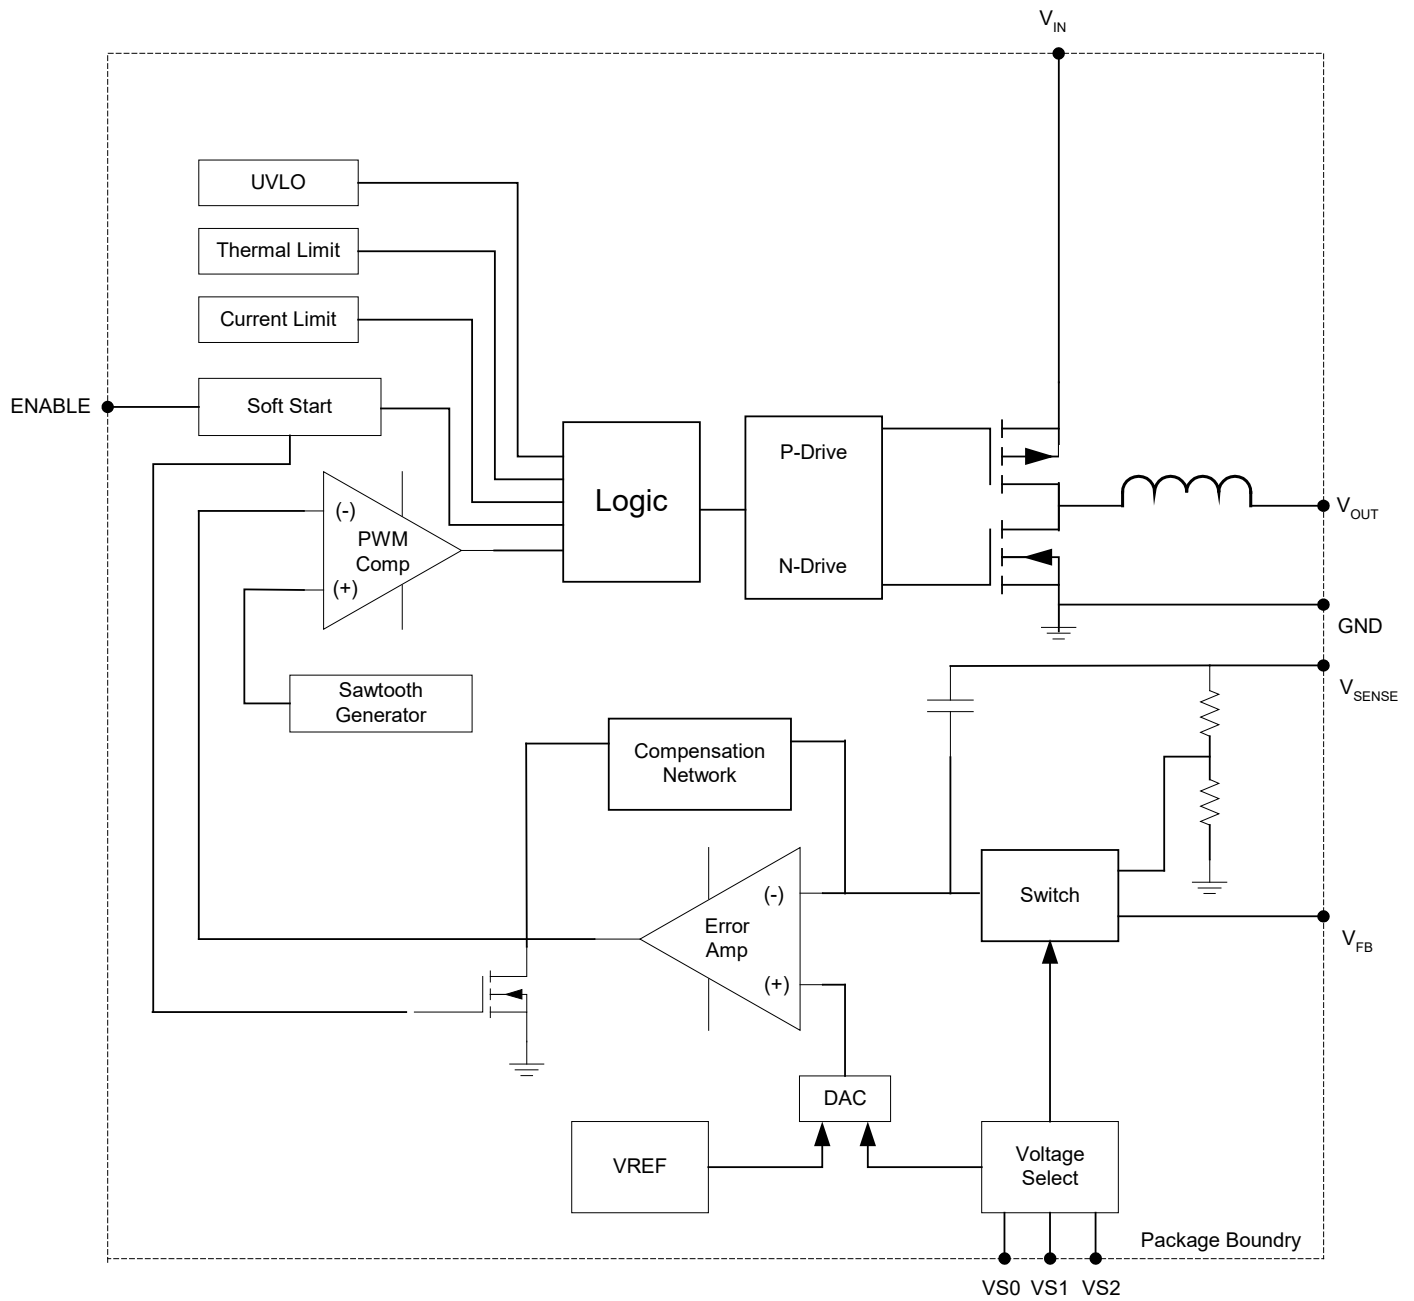

Figure 4. Functional Block Diagram
**Recommendation 8:** Keep  $R_a$ ,  $C_a$ , and  $R_b$  close to the VFB pin (see Figures 4 and 5). The VFB pin is a high-impedance, sensitive node. Keep the trace to this pin as short as possible. Whenever possible, connect  $R_b$  directly to the GND pin instead of going through the GND plane.